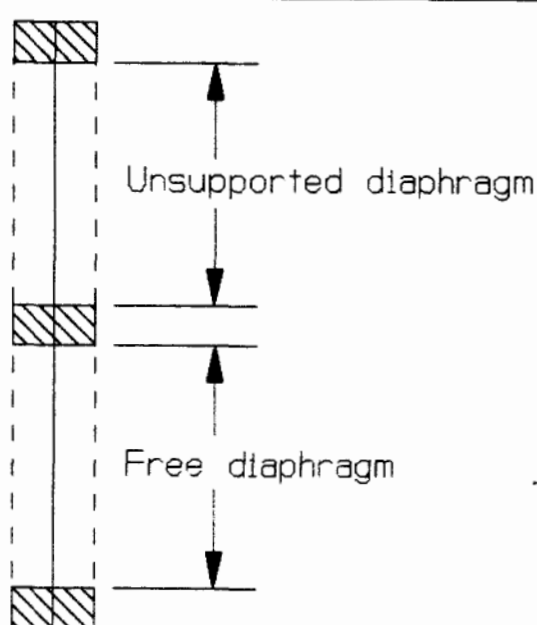
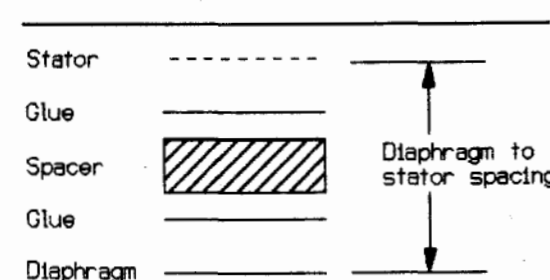

FIGURE 5-4: Unsupported diaphragm length.
FIGURE 5-5: Diaphragm-to-stator spacing defined.
**SPACER RATIO.** The diaphragm is separated from the stators by spacers. The distance from one spacer to the next determines the free (unsupported) diaphragm length (Fig. 5-4). The spacers have a certain thickness which, along with glue bond thickness, defines the distance between the diaphragm and a stator. This distance is the D/S spacing (Fig. 5-5).